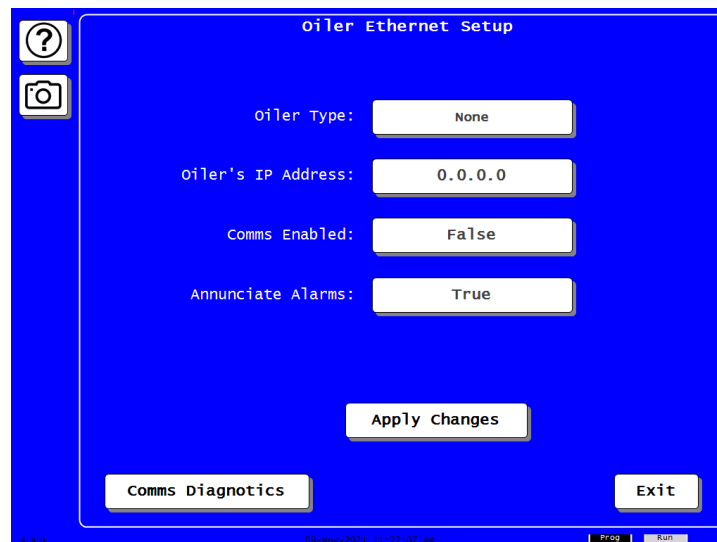

Figure 9. Oiler Ethernet Setup Menu Default Settings.
5. The Oiler Control Utility Menu displays the default Oiler Setup settings for the SmartPAC PRO unit (see Figure 9).